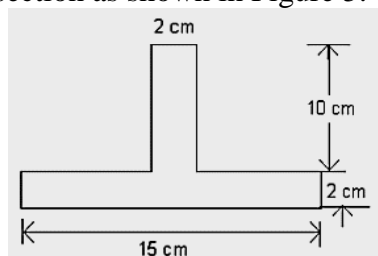

Figure.5
- 6.a) Locate the centroid of a section as shown in Figure 5.